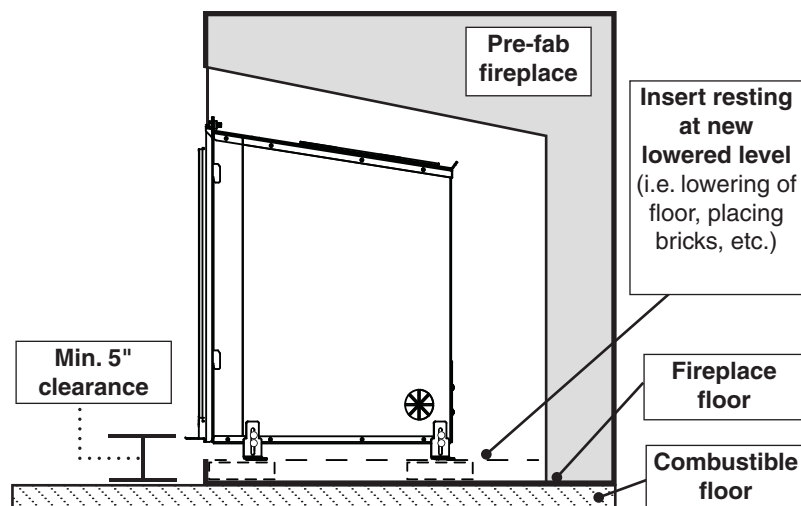

Fig. 20-2 Pre-fab fireplace floor height adjustment
- B. Cutting any sheet metal parts of the fireplace in which the gas fireplace insert is to be installed is prohibited, with the exception of the firebox floor. The metal firebox floor may be removed/altered to allow additional room for installation of the insert. Note: a minimum 5" clearance is required between the fireplace floor and the insert. The clearance may be provided by lowering the firebox floor, placing bricks, etc. See Fig. 20-2.